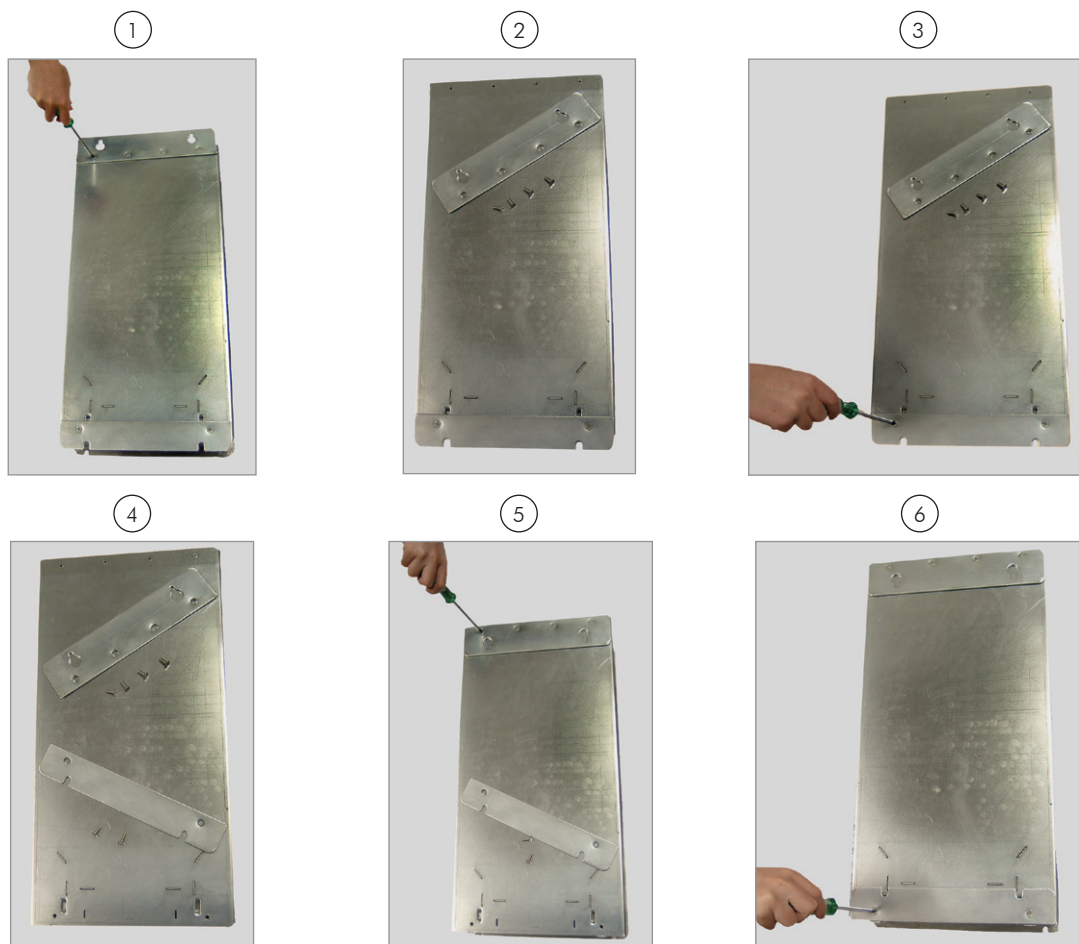
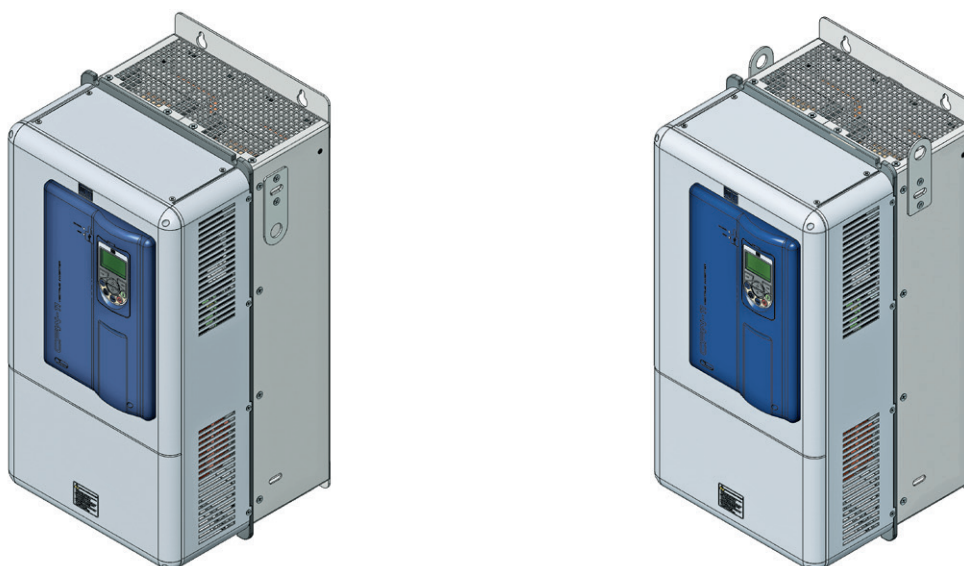

Figure 3.3 - Repositioning the mounting supports
Figure 3.4 - Installation of the inverter hoisting eyes
- ☑ The inverter securing supports (position I of Figure 2.2 on page 2-6) and the hoisting eyes (position J of Figure 2.2 on page 2-6) must be removed and repositioned according to the Figure 3.3 on page 3-6 and Figure 3.4 on page 3-6.
Two hoisting eyes for the inverter lifting, which are mounted at the inverter sides (rear part), are supplied. By inverting their position, as shown in the Figure 3.4 on page 3-6, two points for hoisting the inverter, which are very useful during the mechanical installation of the inverter, are obtained.